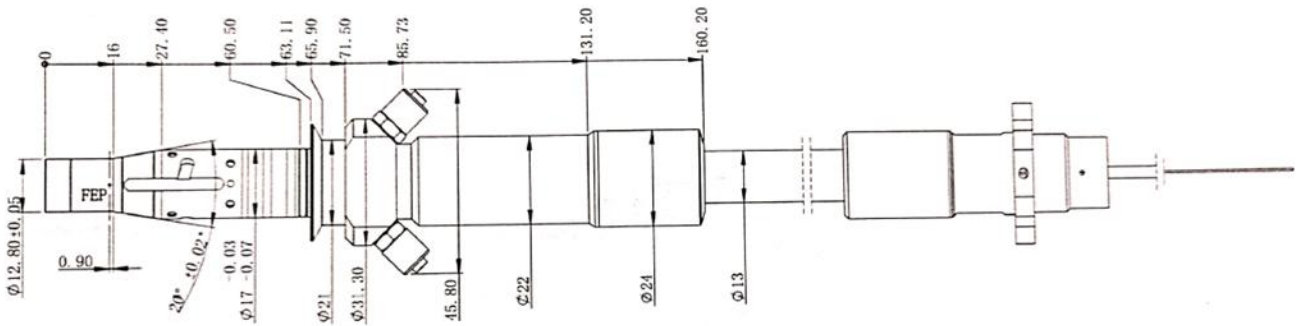

Figure 4 External dimensions of the RFL-HQBH fiber delivery cable connector
- a) RFL-1500/1500-ABP, RFL-2000/2000-ABP, RFL-3000/3000-ABP, RFL-2000/4000-ABP, RFL-4000/2000-ABP , RFL-4000/4000-ABP uses the RFL-HQBH model cable connector, and the external dimensions of the cable connector are shown in Figure 4: